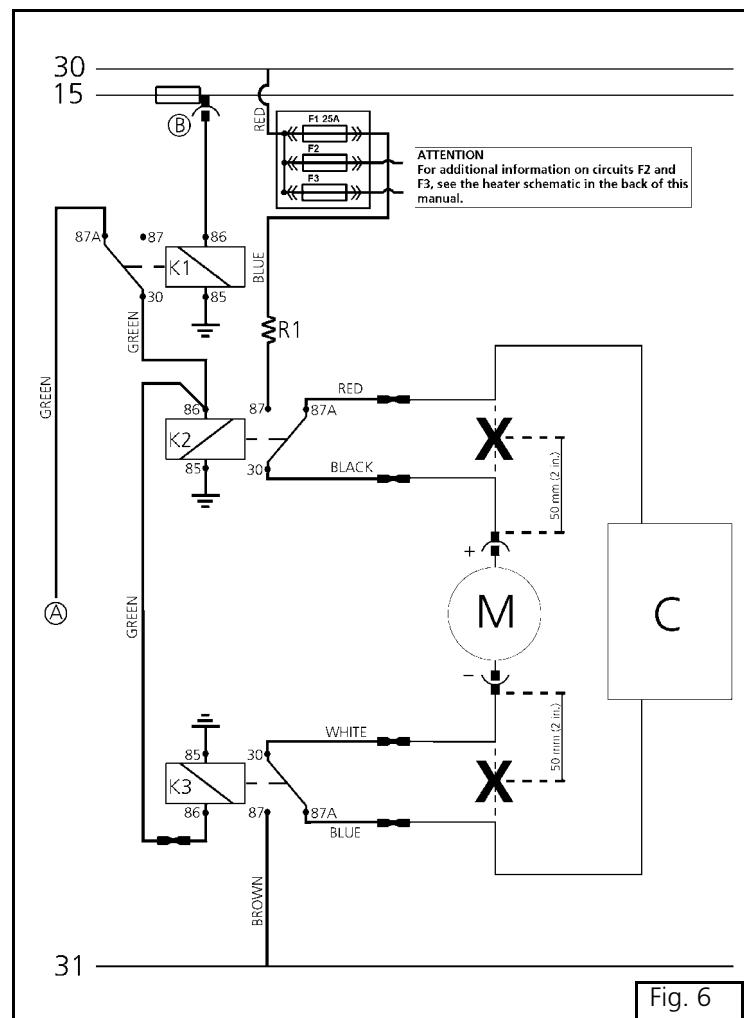

Fig. 6
Check your wiring! Ensure that all connections have been done in accordance with the wiring diagram shown (Fig. 6). Sensitive electronic controls can be damaged if wired incorrectly!
**Legend for Figure 6**